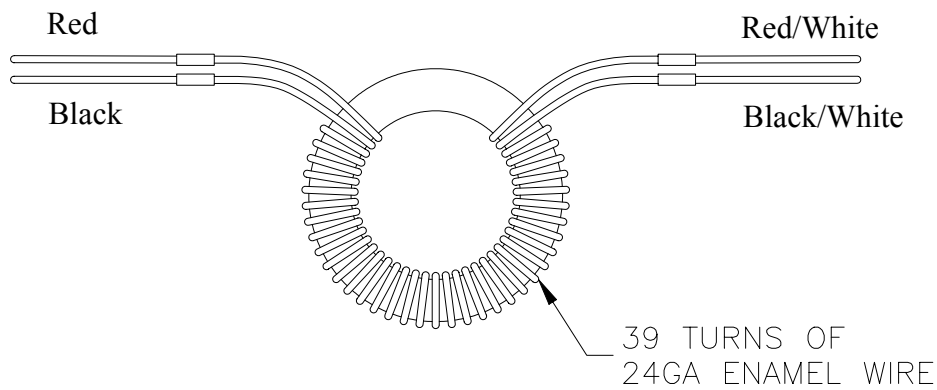

Figure 3. Details of toroid required for CE compliance.
- Form a coil by wrapping 39 turns of a pair of enamel wires around the toroid (see Figure 3).